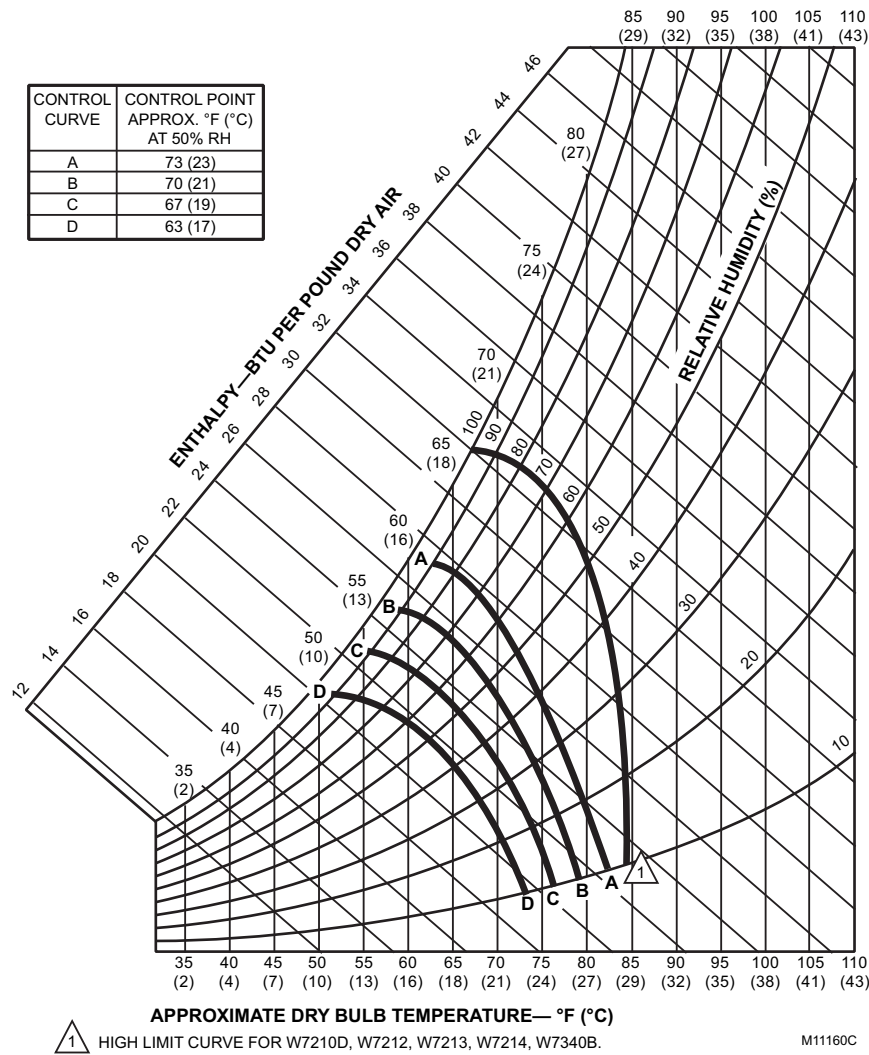

Fig. 7. W7212A, W7213, W7214 performance characteristics for enthalpy changeover settings.
Single enthalpy compares the outdoor air conditions to a set A,B,C, or D (E) curve for humidity and temperature conditions. The installer must set the onboard potentiometer to the desired curve. The outdoor enthalpy changeover setpoint returns the outdoor air damper to minimum position. Enthalpy setpoint scale markings, located in the device, are A, B, C, and D for the W7212A, W7213 and W7214. See Fig. 7 for the corresponding control point. Enthalpy setpoint scale markings for the W7212C are A,B,C,D and E. See Fig. 8 for the corresponding control points. The factory-installed 620-ohm jumper must be in place across terminals SR and SR+. Temperature and humidity conditions to the left of the selected curve will allow the dampers to open for free cooling, temperature, and humidity conditions to the right of the curve